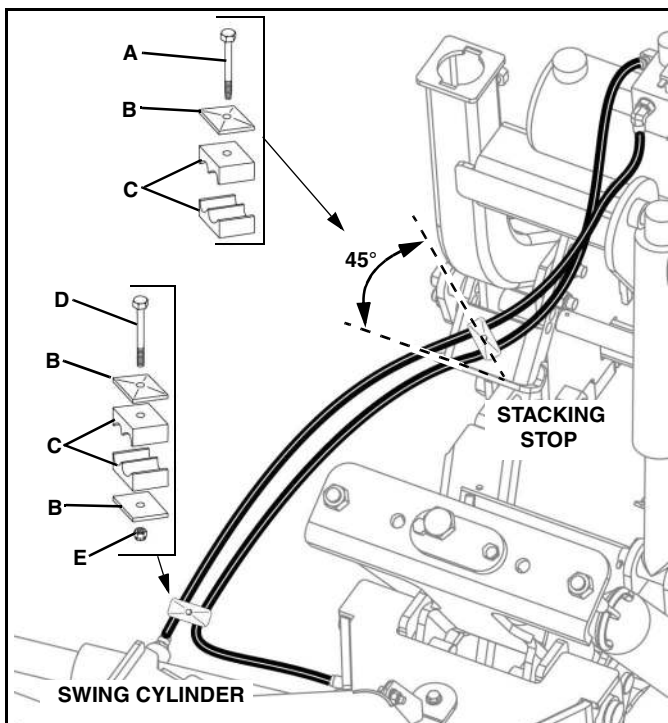

Figure 1-24
16. Secure the right hydraulic hose set with one Hose Clamp Kit (p/n 96112909) as follows (See Figure 1-24):